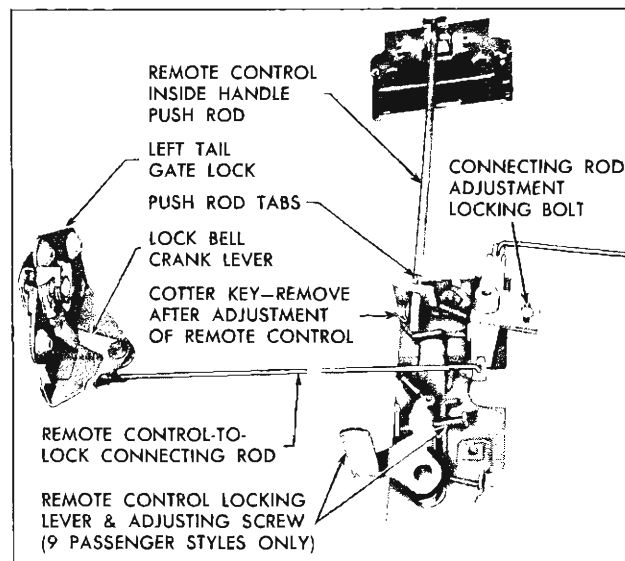

Fig. 96—Tail Gate Lock and Remote Control
5. To install tail gate lock assembly, reverse removal procedure. Prior to installing lock assembly into tail gate, apply a bead of body caulking compound to lock frame along the joint of the lock bolt housing ("1" in Figure 96).